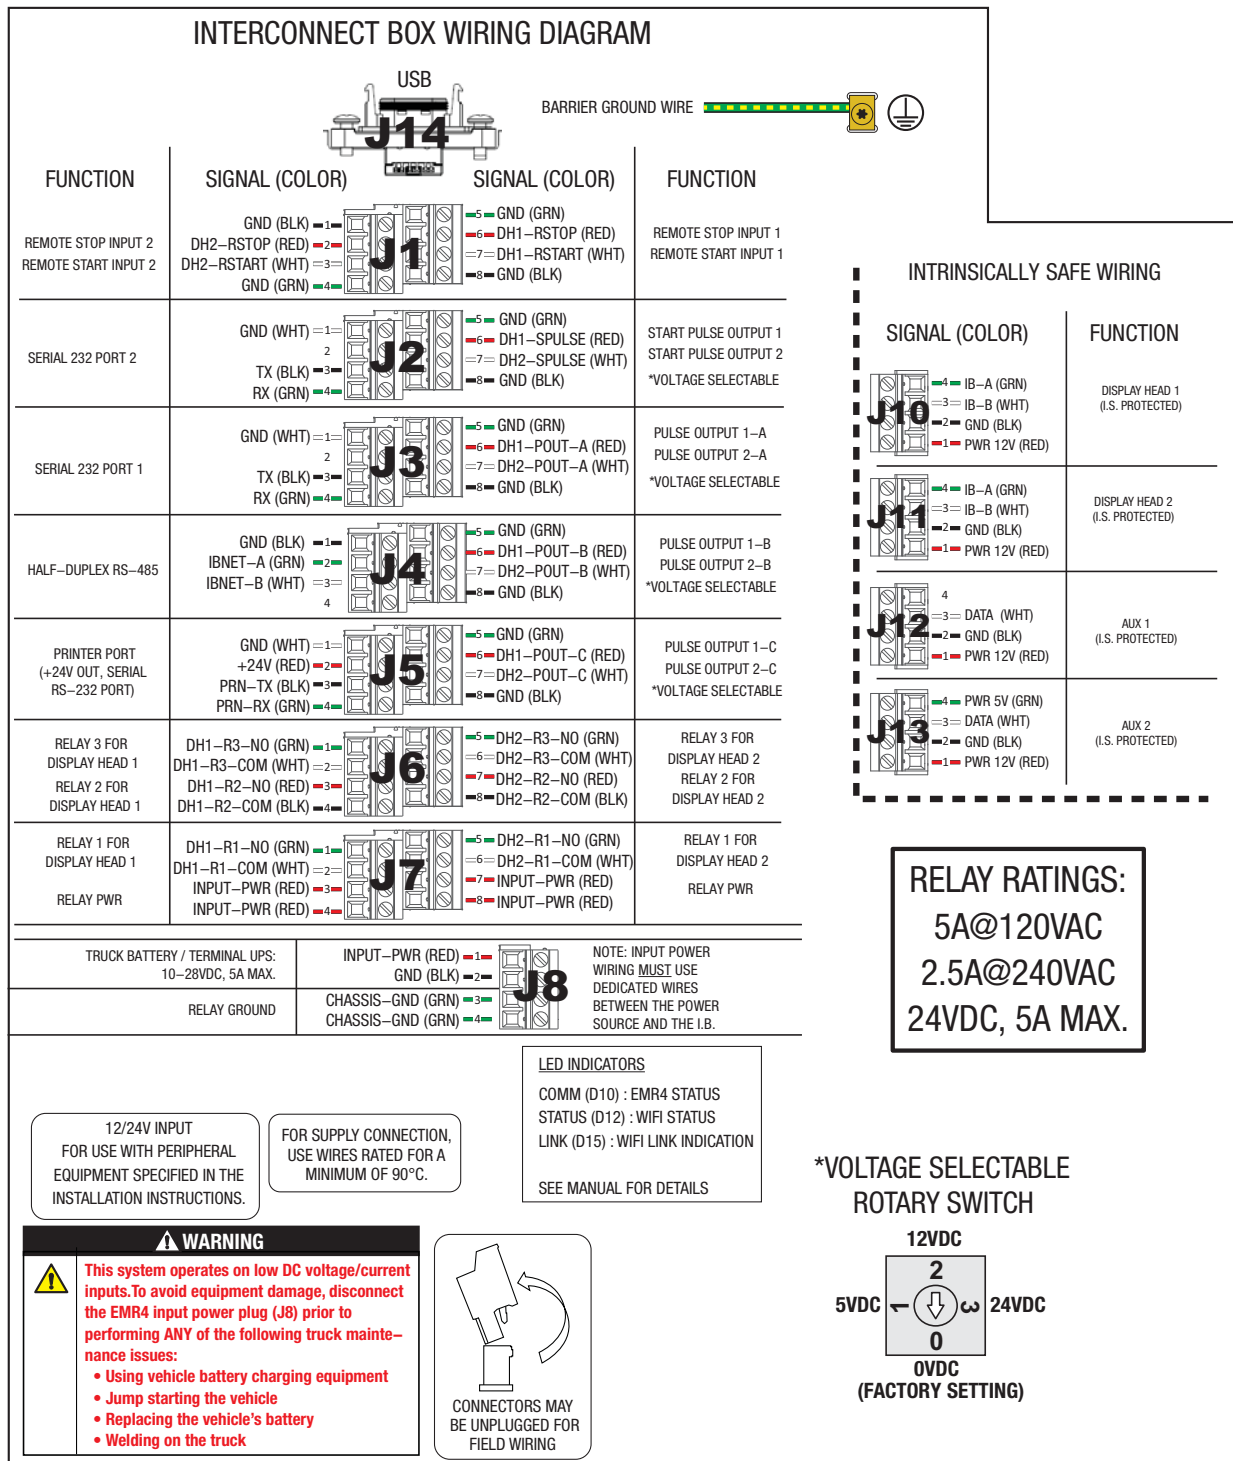

Figure 22. EMR4 Interconnect Box Wiring Connections
2. Figure 22 shows IB Power Side terminal wiring connections. Remove hole plugs and use cord grips for all cables attaching to this terminal block.
3. Refer to Figure 22 for the IB intrinsically safe terminal wiring connections. Remove hole plugs and use cord grips for Display Head cable entries. The drain wire from the Display Head cable must be connected to the chassis ground clamp in the Interconnect Box.
On some vehicles, the battery minus terminal, BAT(-), may not be common with the chassis ground or the defined vehicle ground located in either the accessory panel or in the power distribution box. In this case, directly run the ground connection for Input Power at J8, Pin 2 (GND) terminal as shown in Figure 22, directly to the BAT(-) terminal connection point.
Attach the four wires of the printer power/data cable to the appropriate terminals of the Power Side terminal block in the IB (Figure 22 on page 29) and the DB-25 connector and the round power connector to the appropriate connectors on the rear of the printer